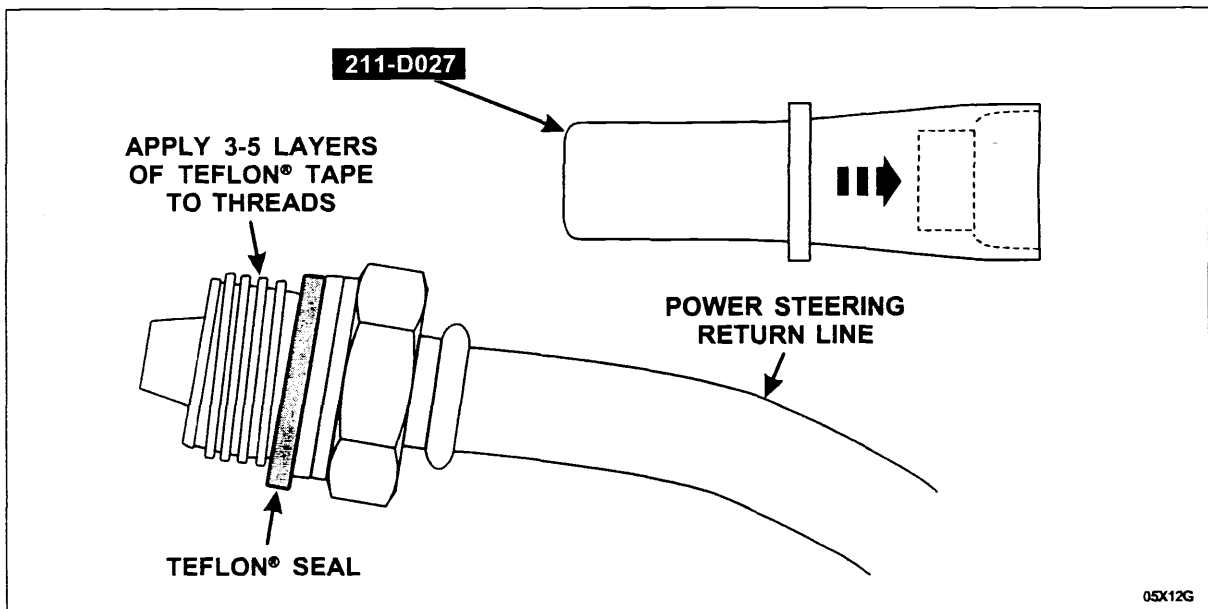

FIGURE 7
5. Wrap the threads of the power steering line connectors with 3-5 layers of Teflon® tape. See Figure 7.
6. Using Teflon Seal Installer Set 211-D027 (D90P-3517-A) or equivalents, install a *new* Teflon® seal onto the power steering return line. See Figure 7.